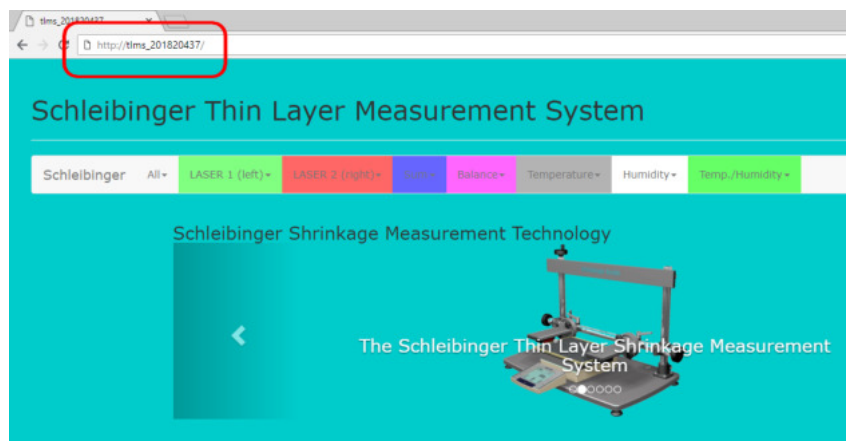

Figure 5: Accessing the data logger with a symbolic server name.
- Enter the host name into the address line of your browser in a form "**http://...**" (Fig. 5.)
A DHCP-Server assigns a free IP address to the data logger. You can access the data logger via the default host name using the DNS (Fig. 5).